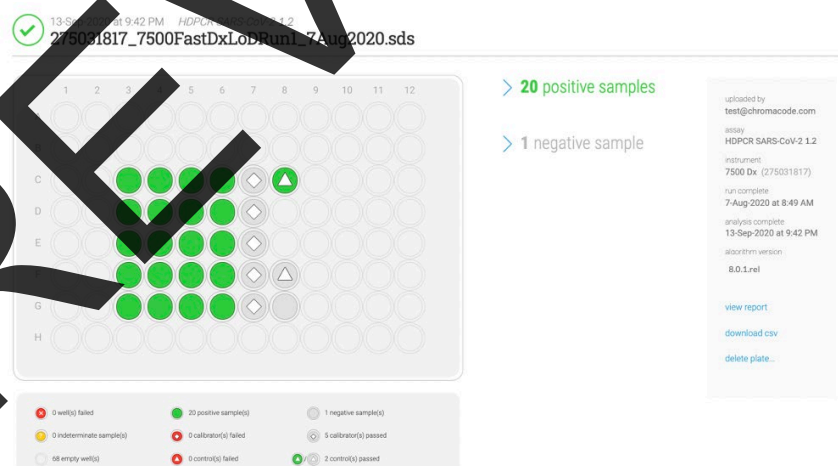
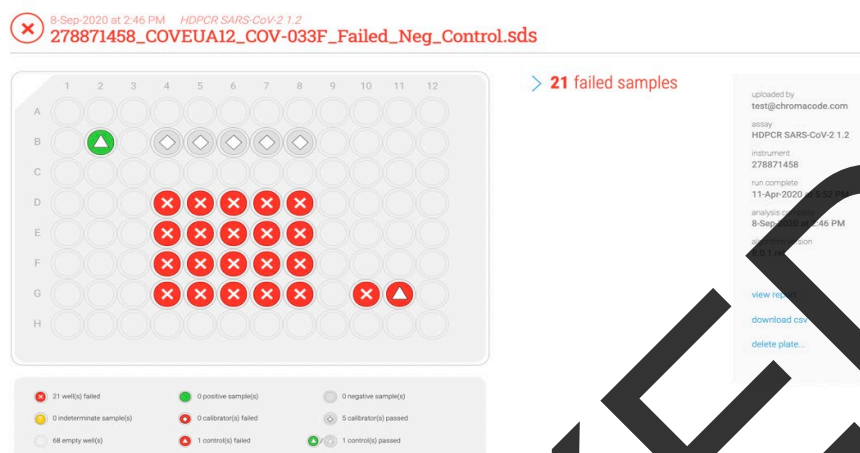

Figure 3. Plate Passing ChromaCode Cloud QC
Figure 4. Plate Summary Page with Failing Plate QC
ChromaCode Cloud automatically assesses the plate QC status. This information is provided in a Plate Summary view and a WellDetails page on ChromaCode Cloud. Additionally, this information is consolidated in an exportable portable document format (pdf) report. The report can be downloaded from the Plate Summary page by clicking **view report** as seen in Figure 3.
HDPCR SARS-CoV-2 calibrators must be run and pass quality control checks on every plate run. If these calibrators do not pass quality control checks, the plate run will be automatically flagged as failed on ChromaCode Cloud by a red X next to the run name, which will be written in red text (an example of a failed plate in Figure 4). A plate that has passed plate QC will have a green check and the run name will be written in green text in Figure 3.
ChromaCode Cloud automatically assesses the amplification and detection of the N1 and N2 targets and the RNase P (IC) internal control status for each sample. This information is provided in a Plate Summary view (Figure 3) and a WellDetails page. Additionally, this information is consolidated in an exportable report.